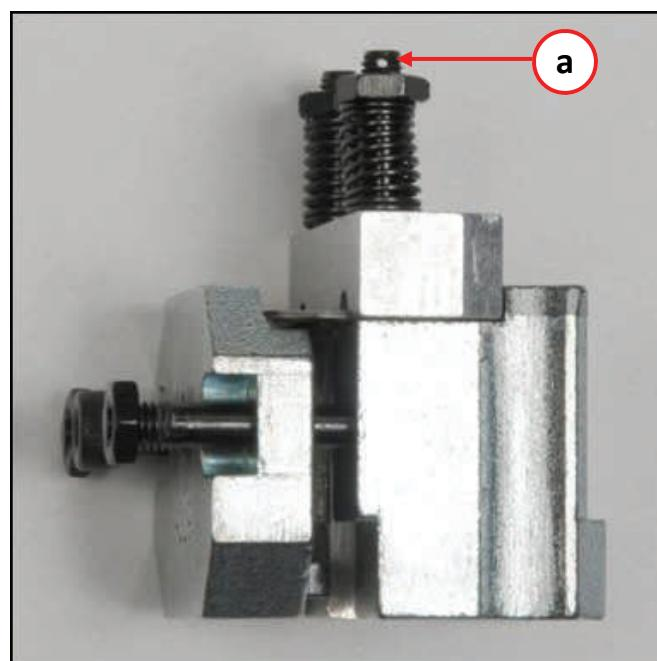

Figure 15
- 9) Tighten Blade Retention Nuts until safety wire holes are visible in the Blade Guide Posts per Figure 15 (a). Insert approximately 3" of Safety Wire through each hole and snugly twist wire together 3-5 times.